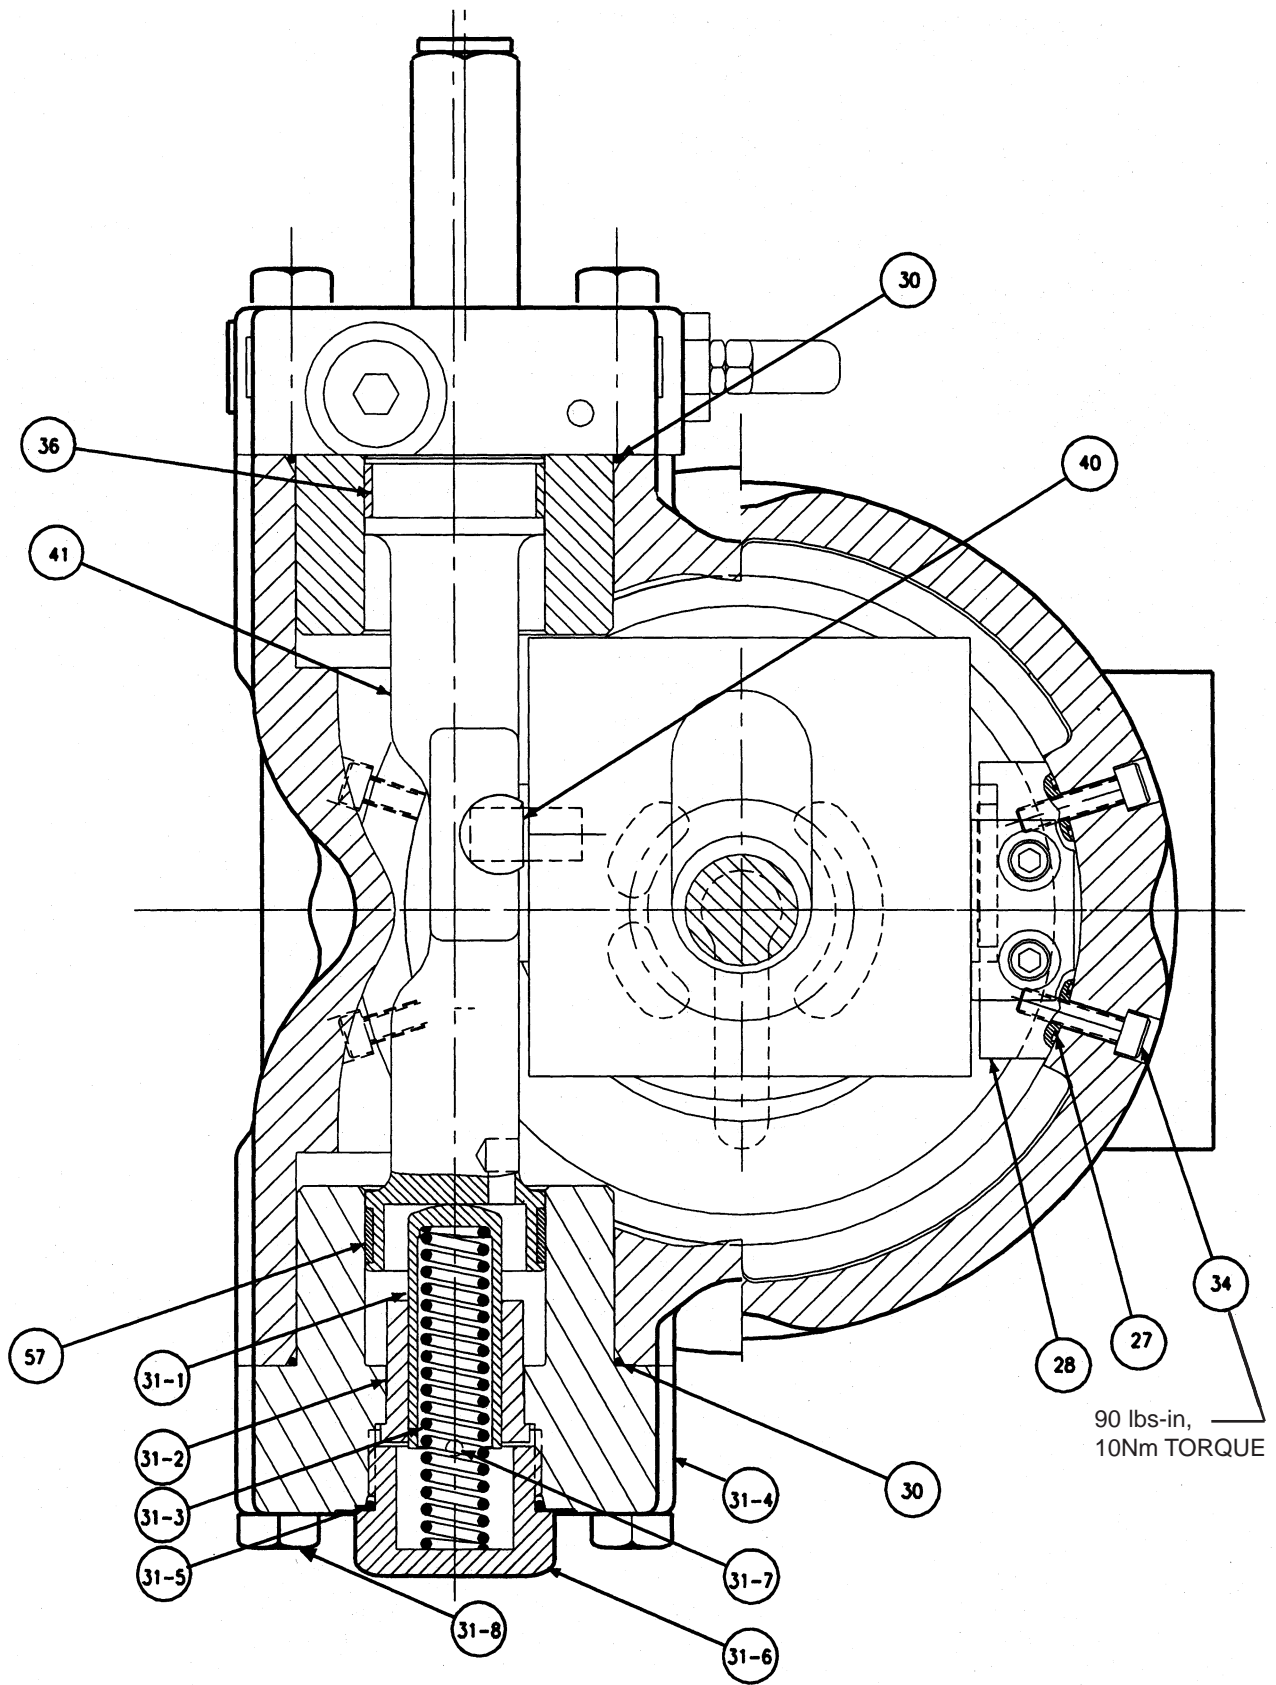
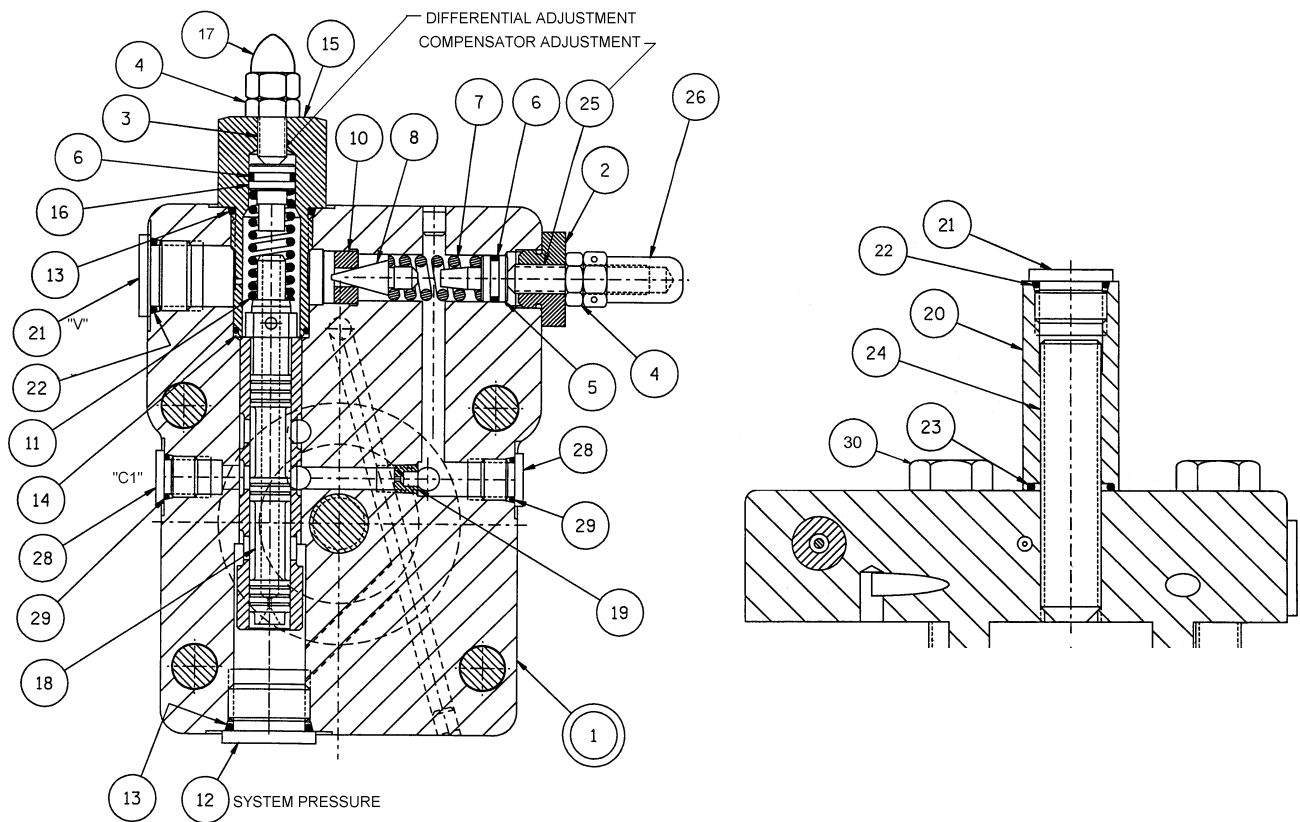

FIGURE 5
FIGURE 7
See Figure 5. Adjust maximum volume screw CCW until piston (41) has bottomed out on control cap.
See Figures 5, 6 and 7. Remove control cap assembly (53) and spring cap (31) by removing eight hex head cap screws.
See Figure 5. Remove four screws (34), and two cam/bearing retainers (28).
Assemble piston rings (36) and (57) to control piston (41). Place control piston (41) into the housing bore that will be used to accept the piston caps. The long end of the piston (the larger diameter for the stroker piston) must be positioned on the bottom as shown in figure 5 for CW shaft rotation. For CCW rotation, the long end of the piston would be on the top. The piston must be moved outward (away from pump center) so that clearance will be provided for installing the rocker cam assembly.
Adjust maximum stop screw (24 figure 5) CW until piston (41) bottoms out on spring cap (31) This will place the rocker cam at approximately zero stroke and provide clearance for the shaft installation.
See figure 5. Adjust maximum volume screw (24 figure 7) CCW until piston (41) bottoms out in control cap (1).